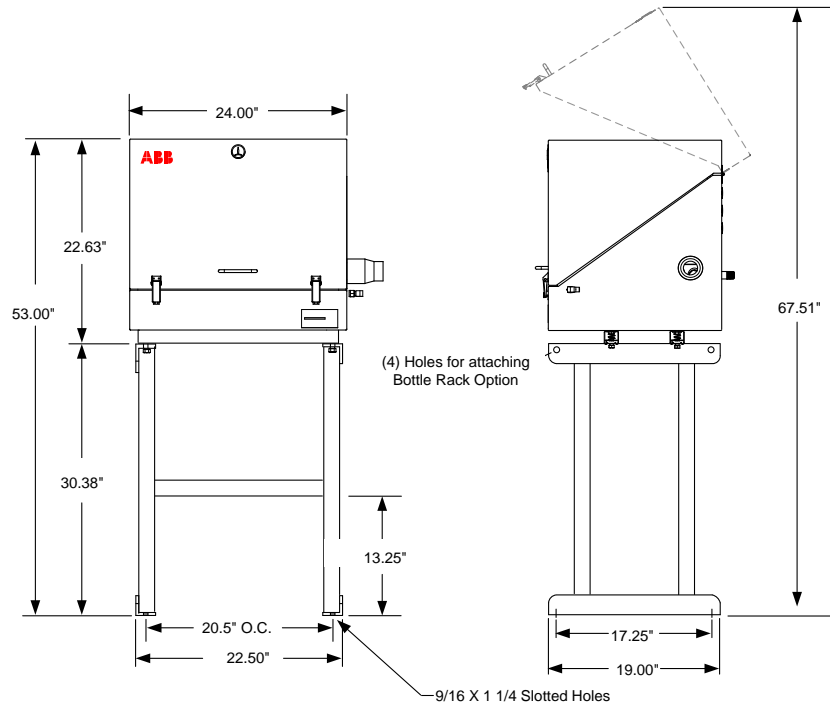

Figure 3-7 ENC82S-Enclosure Installation
- 2) Set enclosure on top of stand, oriented so that the stand brace is horizontal with the front of the enclosure (see Figure 3-7).